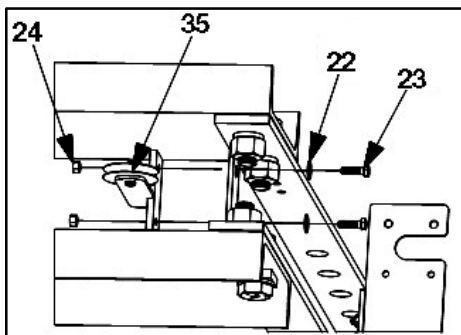

Fig. 8: Install single sheave mount weldment
10. Install Single Sheave Mount Weldment [item #35] onto upper cross piece of the Right Hand Upright Frame Weldment [item #11] using (2) 3/8" X 1 1/4" Grade 5 Cap screws [item #23], (2) 3/8" Washers [item #22], and (2) 3/8" Nuts [item #24] as shown in Fig. 8.